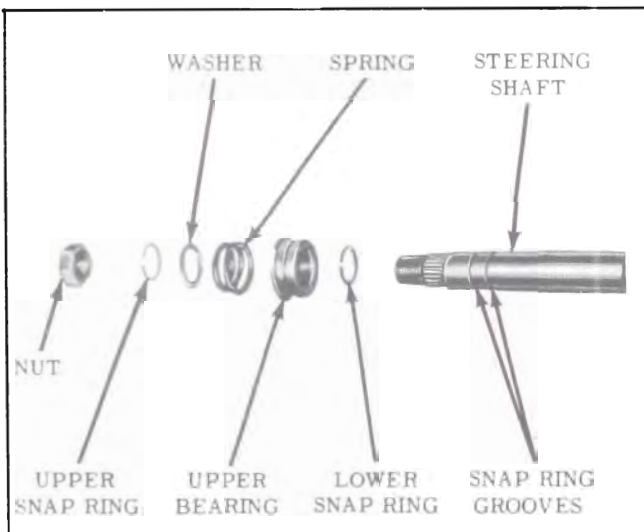

Figure 8-90—Steering Shaft Upper and Lower Snap Rings
17. Install a new bearing lower snap ring on steering shaft, being sure it is properly seated in groove on shaft. See Figure 8-90.